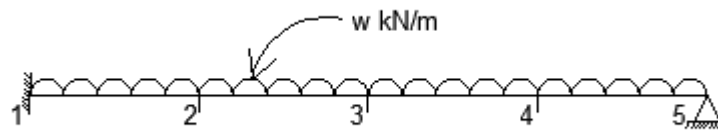

Fig.1
8. A propped cantilever  $AB$  fixed at  $A$  and propped at  $B$  is of length  $L$  and has constant flexural rigidity  $EI$ . The cantilever supports a udl of  $w$  kN/m over the whole length as shown in Fig. 1. Using 4 subintervals, estimate the deflection at pivotal points using 4th order differential equations.